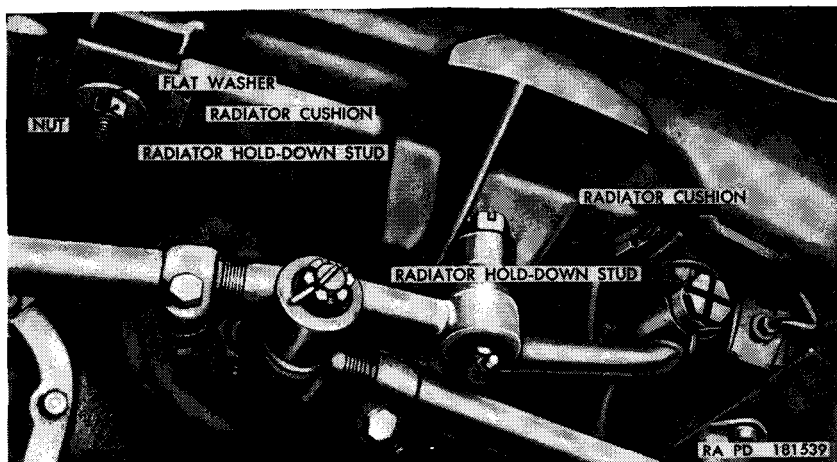

Figure 41. Radiator hold-down studs.
- (1) Secure radiator to vehicle frame cross member by installing two $1\frac{1}{2}$ -inch flat washers and $\frac{7}{16}$ -inch nuts on radiator holddown studs (fig. 41).
- (2) Install radiator guard (par. 263).
- (5) Remove nuts and flat washers from two radiator hold-down studs (fig. 41) holding radiator assembly to frame front cross member.
- (6) Lift radiator assembly straight up, being careful not to rub it against fan. When studs (fig. 41) are clear of frame front cross member, tip radiator forward at the top and remove from vehicle. Remove radiator cushions from studs (fig. 41).
- (1) Place radiator cushions on radiator hold-down studs (fig. 41). Carefully lower radiator assembly into place, positioning holes in brackets (fig. 32) on radiator over radiator left and right support rods.
- (2) Install two $1\frac{1}{32}$ -inch flat washers and $\frac{7}{16}$ -inch nuts (fig. 41) on studs securing the radiator to the frame front cross member and tighten evenly.